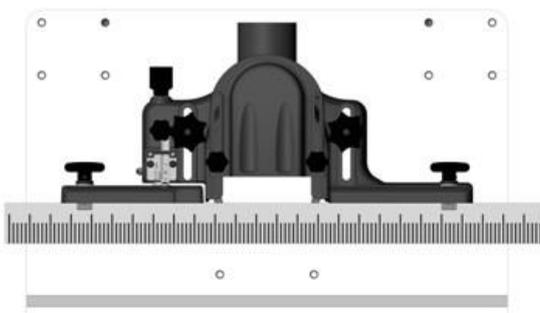

Fig. 9
**Adjustment is required** if the fences appear skewed (Fig. 9). Continue with the steps below.
Alignment is complete when both fence castings are coplanar (in-line) as shown in Fig. 9 and the outfeed fence is perpendicular to the table.